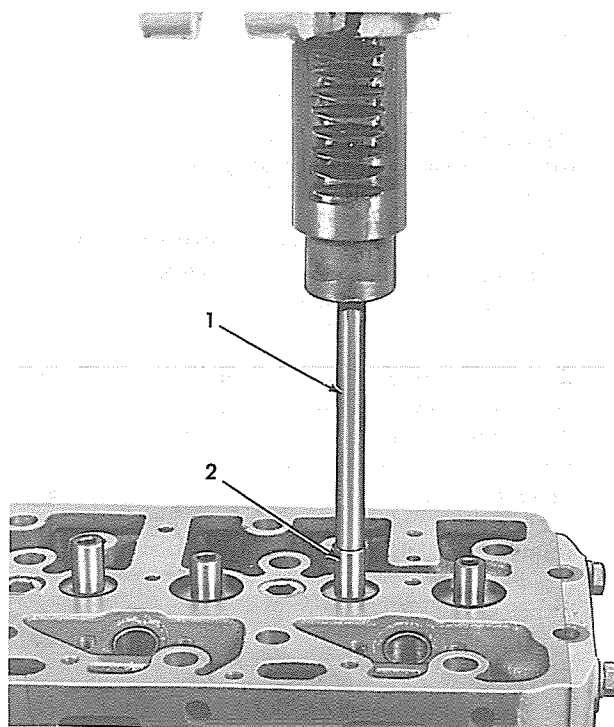

Fig. 15 — Removing Valve Guides
5. The valve guides may be removed by pressing them out through bottom of cylinder head using a valve guide removing tool similar to the one shown in Fig. 15.